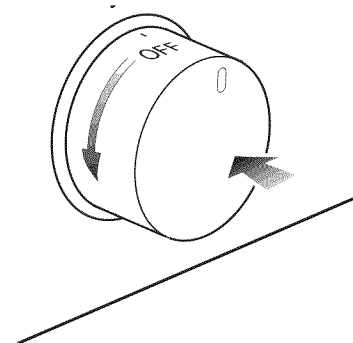

Fig. 3.3
2. Press the oven control knob right down (the igniters will start ‘clicking’), turn the knob counter-clockwise (fig. 3.3) to max position “8”.